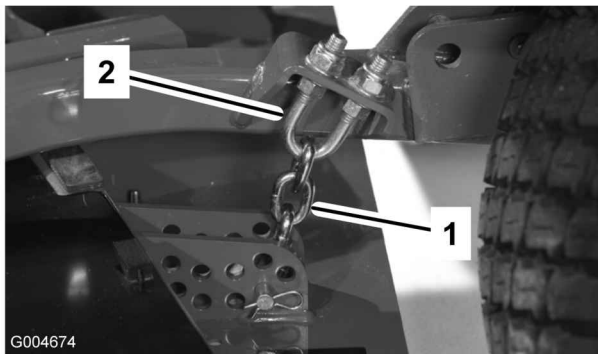

Figure 78
1. Loosen the jam nuts on the top or bottom of the height-of-cut chain U-bolt (Figure 78).